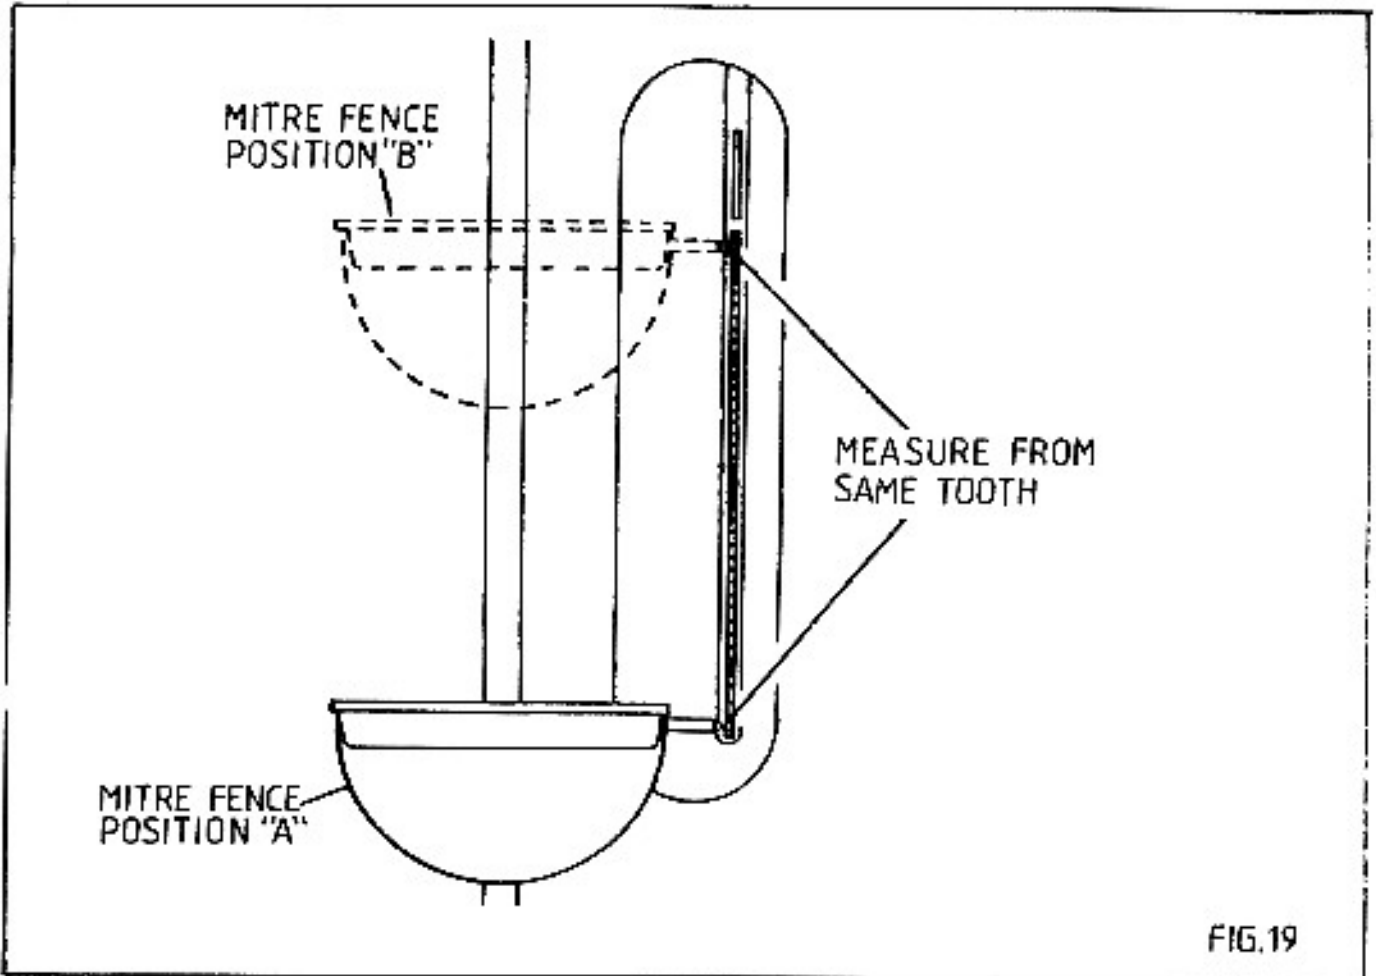

FIG. 19
- c) With the saw fitted to the arbor (refer to 5.6.1), select a tooth and position straight stop rod of mitre fence (refer to 6.2), so that it touches saw in position "A" FIG.19.